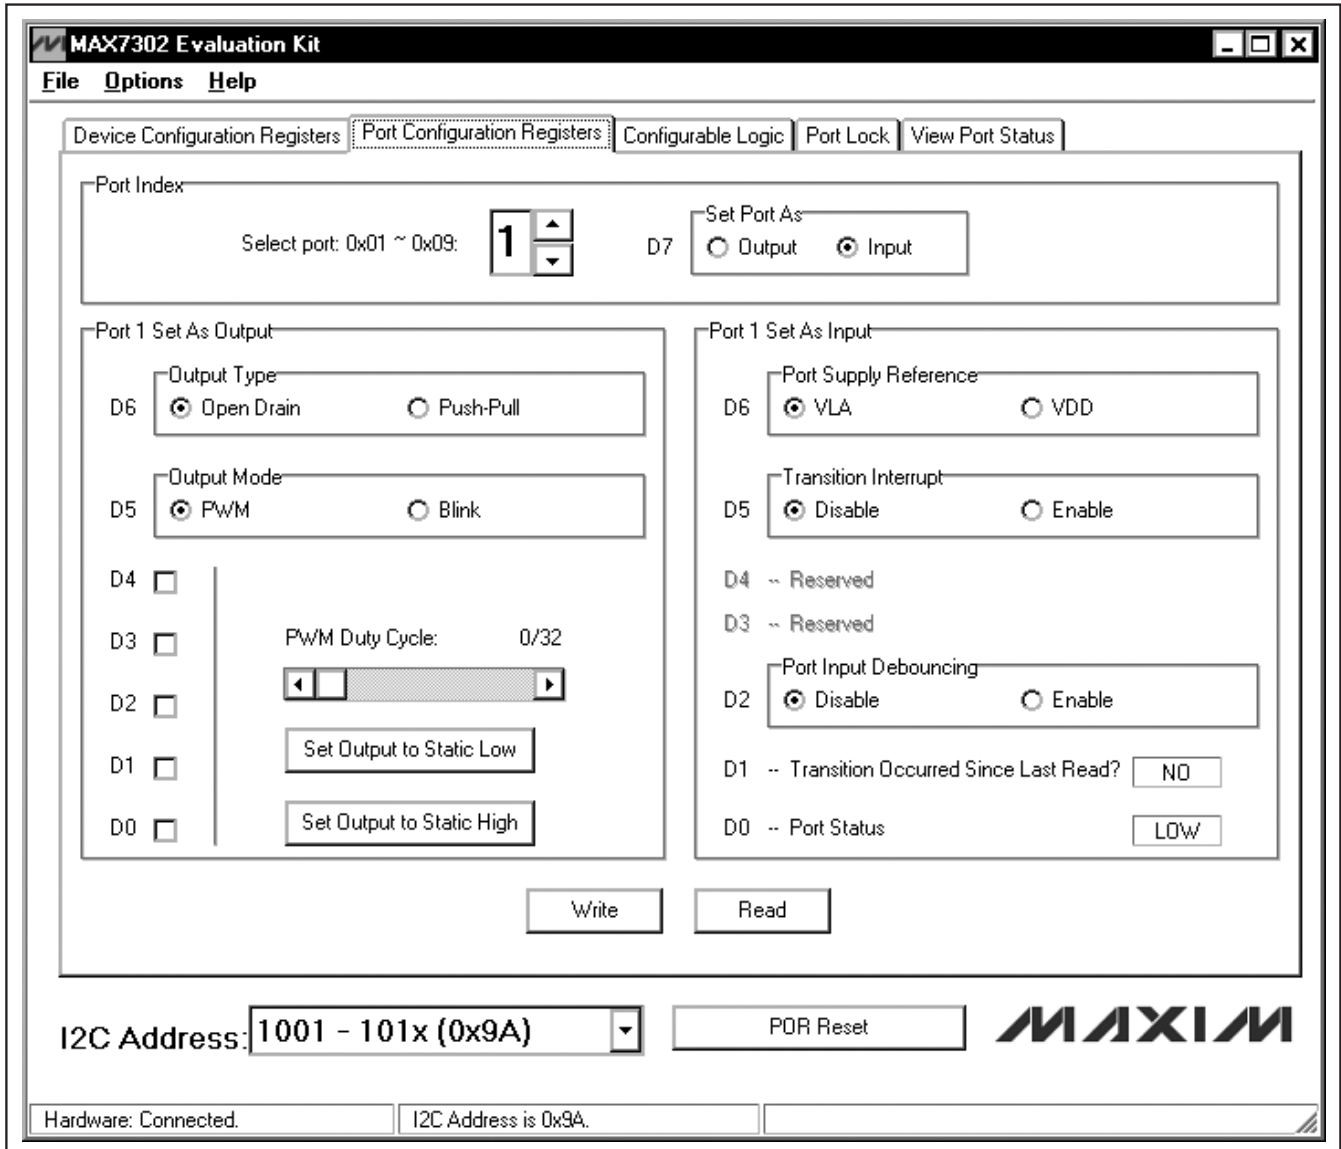

Figure 2. Port Configuration Registers Tab
- 8) Switch to the **Port Configuration Registers** tab as shown in Figure 2. Check the **Output** radio button in the **Port Index** group box and click the **Write** button. Observe the red LED on port 1 turning on.
The **Port Configuration Registers** tab shown in Figure 2 contains the **Port Index**, **Port *n* Set As**